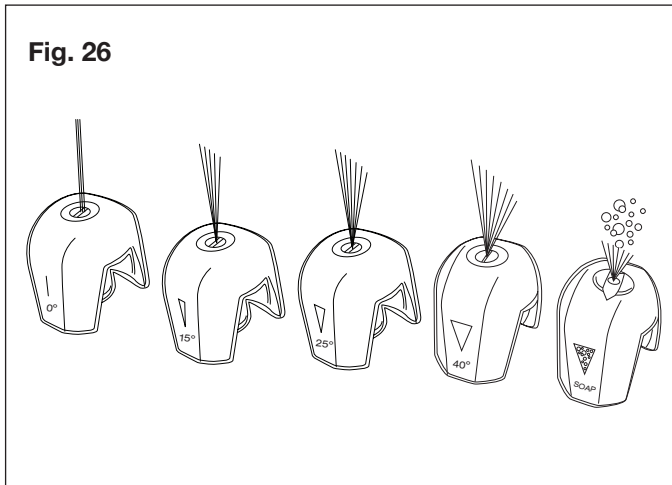

Fig. 26
5. Select the right nozzle for the job (Fig. 26):